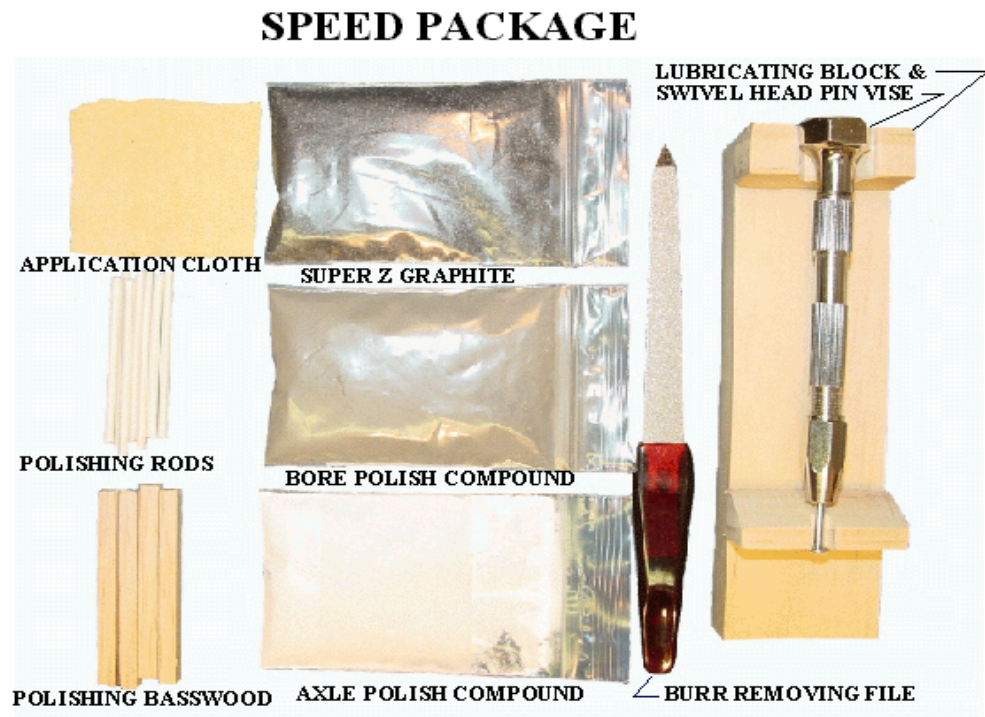

Figure 1A - Materials in the Speed Package
Introduction - Now that **Lectures 14** and **15** have shown detail on car construction, this lecture continues on with the lubrication of the car- it uses the recommended products from the Speed Package , (see **Fig1A**). It also identifies where the items from the free Grab Bag are used in the lube procedure..
- A summary of the reasons this Speed Package (**Fig. 1A**) is effective is given in the website descriptions at Speed Package.